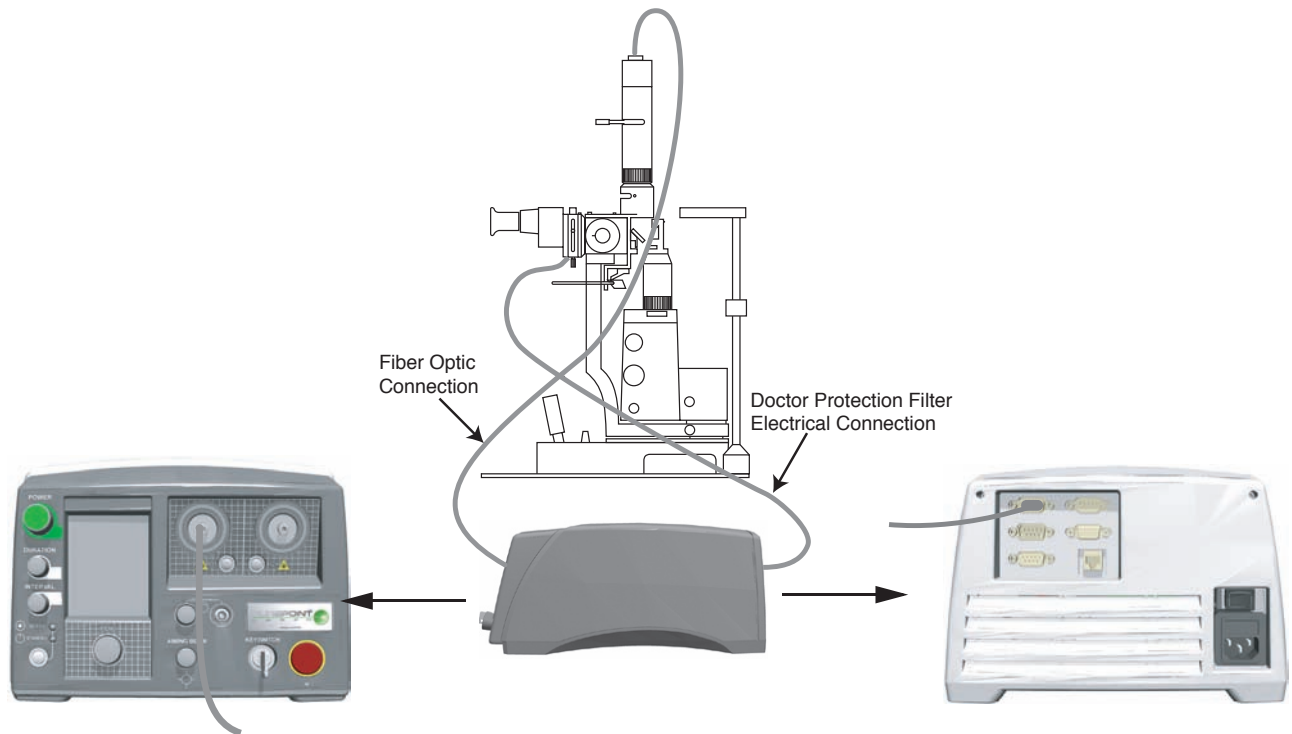

Figure 3-1 Slit Lamp Connections
- 2.4 Ensure all Doctor/Observer protection filters are installed in the optical path of the slit lamp or microscope, and connected to the Doctor Protection Filter ports on the rear panel (see Figure 3-1).
2.7 *SLIT LAMP CONNECTION*: Connect the fiber optic connection from the slit lamp zoom to a laser fiber port on the front panel (see Figure 3-1)